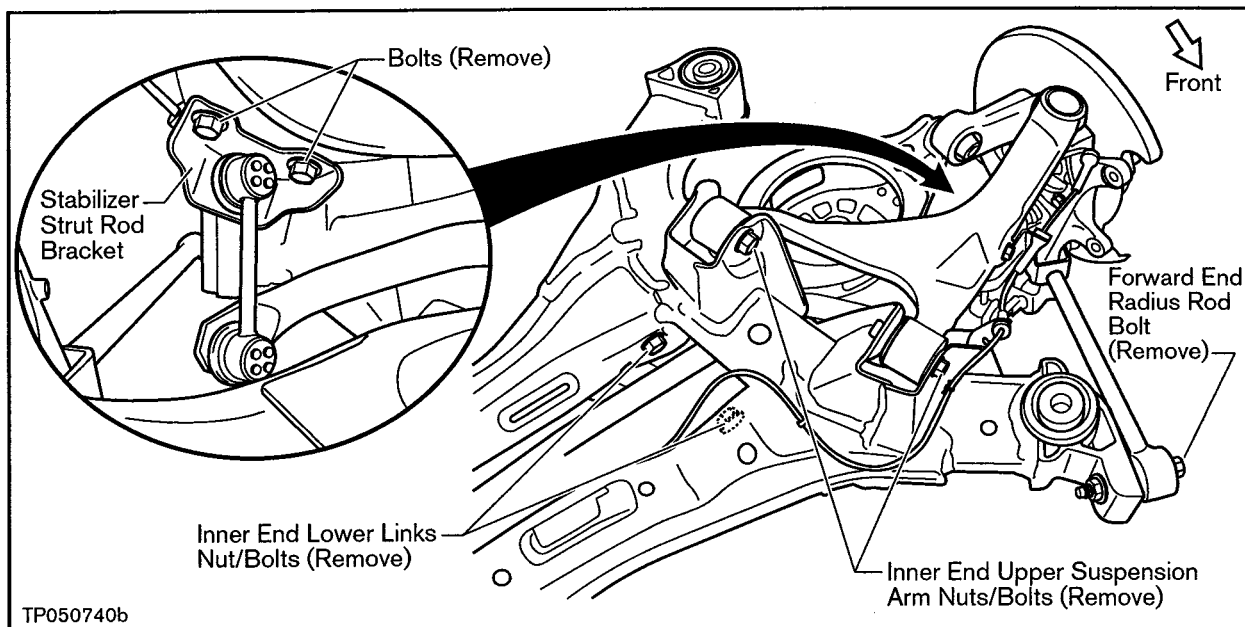

Figure B3
3. Remove the suspension component assemblies listed below from the rear suspension member. Refer to Figure B3.